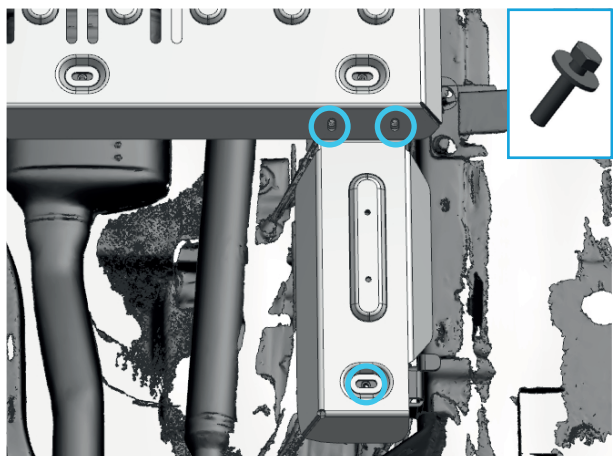

Fig. 7
7. Fix additional skid plate (item 4) to bracket and transfer case skid plate using bolts M10x30 and washers 10 (item B, C) (fig. 7).